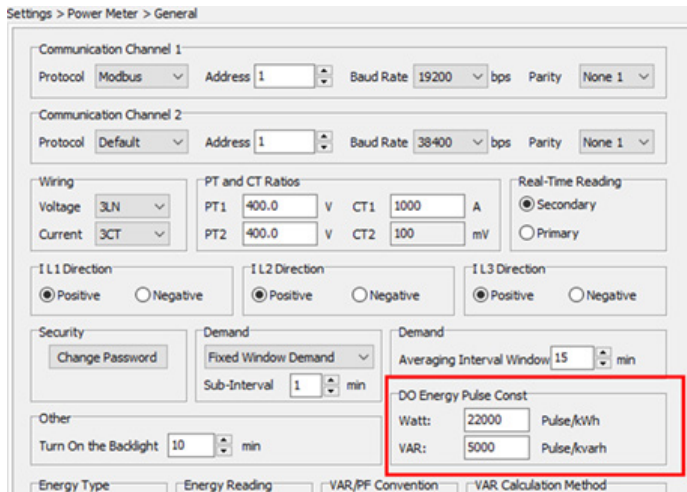

Figure 5-35 DO Energy Pulse Constant Configuration from Acuvim software
- Under the **PT and CT Ratios** section of the page, enter the PT1 and PT2 which represent the rated input and output of the Potential Transformer (PT) that is being used with the meter. If PTs are not being used, leave these settings as the default of 400 for both PT1 and PT2.
- Enter the CT1 and CT2 values which represent the rated input and output of the Current Transformer (CT) being used with the meter.
- Once the pulse constant is determined, it will need to be configured in the general settings. In Figure 5-35, the pulse constant that is entered into the meter is 100.